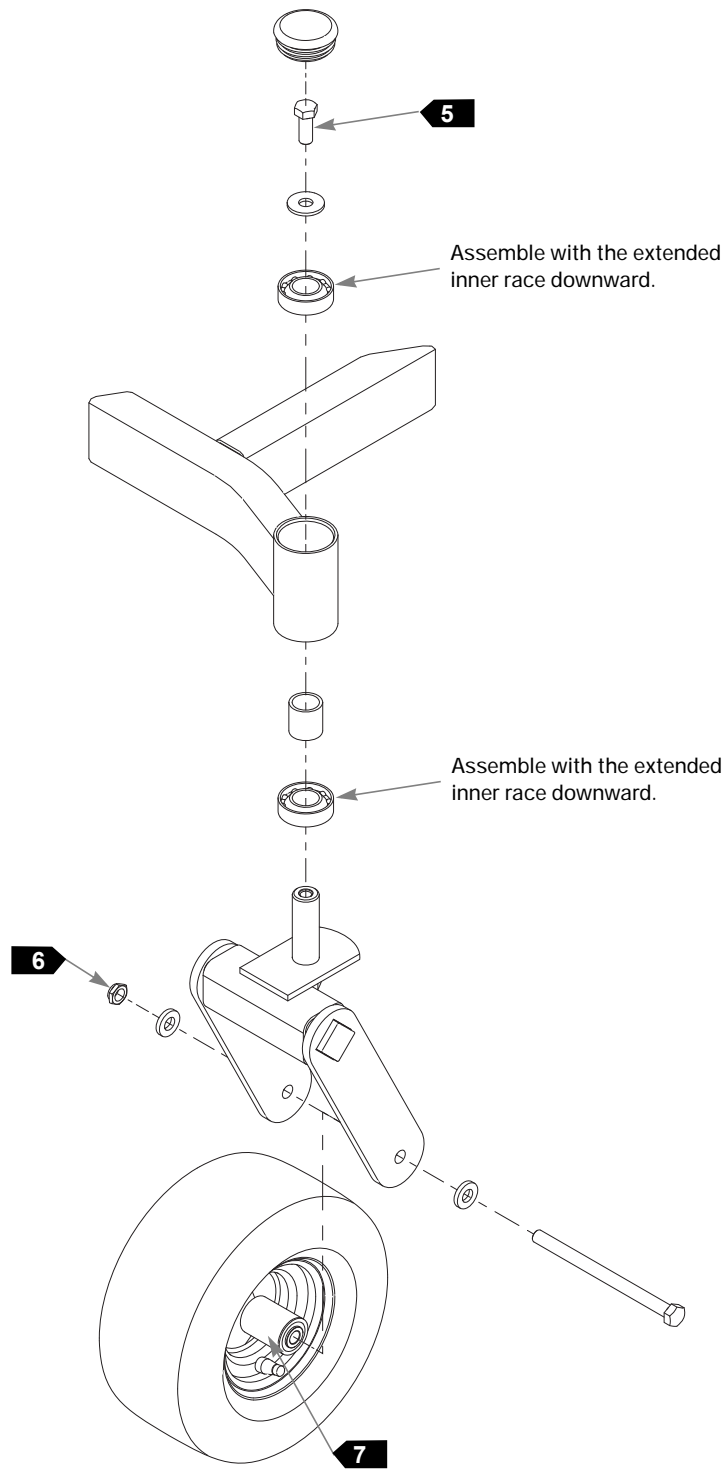

FIG. 4
5. Attach the flex fork to the mower frame using the existing hardware. Make sure that all hardware is replaced exactly as it was removed. Reference Fig. 4 for accurate part placement. Apply one drop of Loctite 242 to the bolt threads. Torque the bolt to 75 ft-lbs (102 N•m).
6. Attach the wheel and tire to the new flex fork using the existing hardware. Tighten the nut, then back it off so the wheel spins freely, Fig. 4.
7. Apply grease to zerks where applicable (see the owner's manual), Fig. 4.